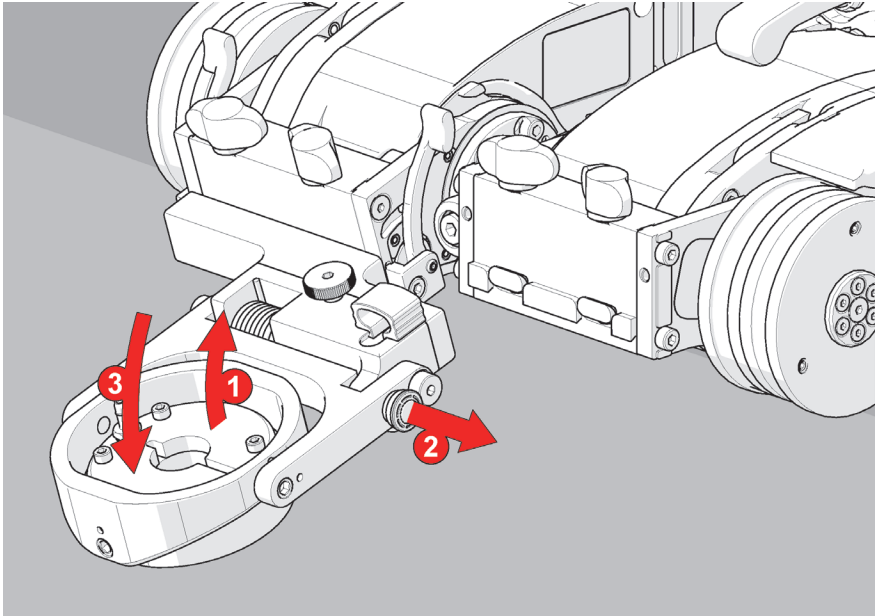

Figure 2-98 Pull probe latch to release dual conventional UT probe holder
11. Gently lift the probe holder (see Figure 2-98 on page 121 [1]).
12. Pull the probe holder latch (see Figure 2-98 on page 121 [2]).
13. Lower the probe holder gently to the scan surface (see Figure 2-98 on page 121 [3]).